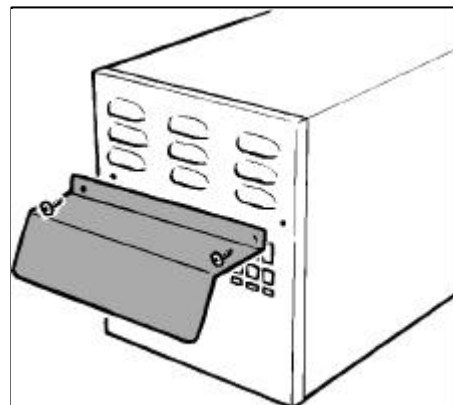

Figure 16 Weather Shield Installation
**9.1** Fit the weather shield and guard to the back of the flue unit as detailed below (see figures 16 & 16a).
**9.1.3** Place the weather shield in position aligning the holes in the shield with those at the sides of the end plate. Secure with the two screws previously removed. see figure 16.